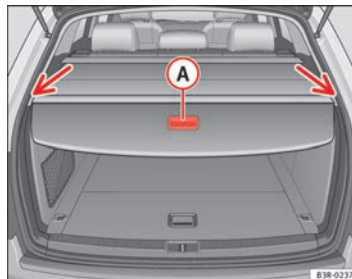

Fig. 120 Tailgate open with luggage compartment cover closed
- Using handle (A) ⇒ fig. 120, pull the rolled-up cover evenly towards the rear of the vehicle.
- Insert the ends of the bar into the grooves in the left and right-hand side trim ⇒ fig. 120 -arrows-.